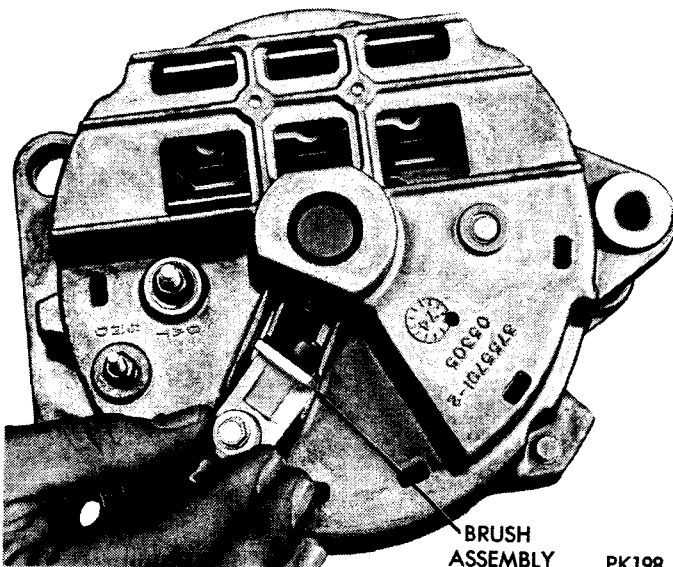

Fig. 42—Removing Brush Assembly
(1) Remove brush holder screw, insulating washer and lift brush assembly from end shield (Fig. 42).